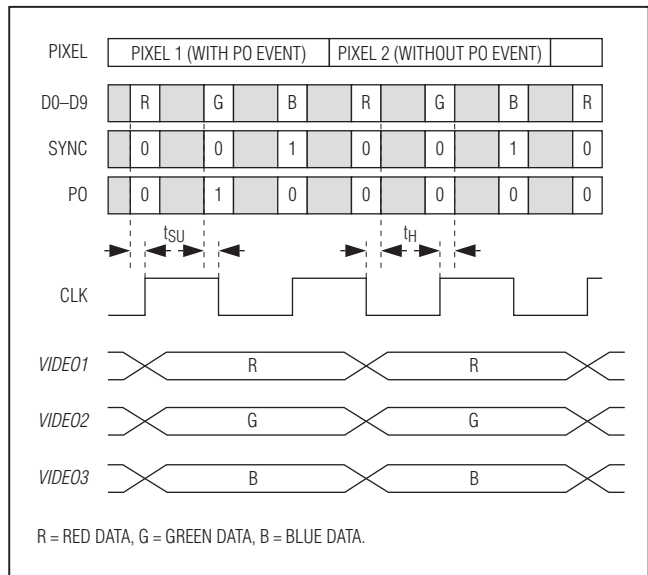

Figure 20. Configuration 1: Video Data Format
- Data is multiplexed R-G-B (Figure 20)